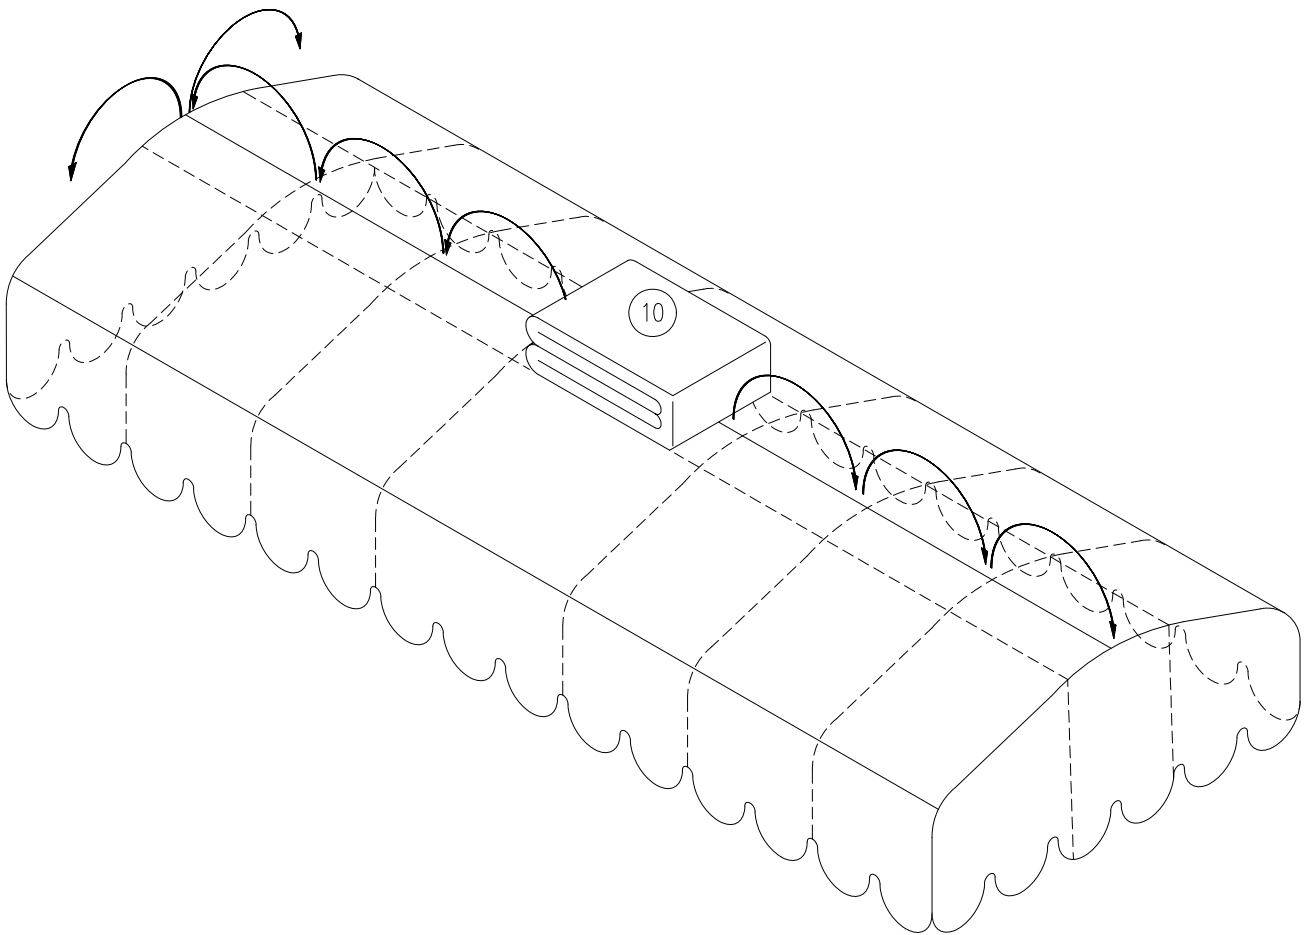

Figure 2-7.
15. Refer to **Figure 2-7**. Place the canopy fabric bundle on top of the canopy frame and unfold down the length of the frame; then unfold across the width. Pull fabric snugly over the frame.